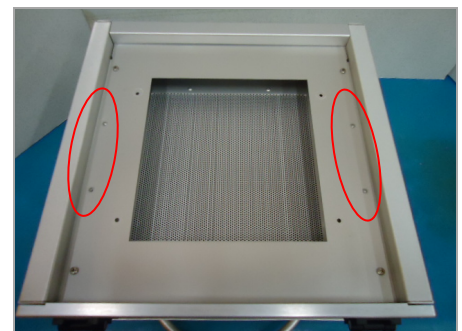

Figure 4. Light Shield Top Cover, Remove Center M4 x 8 mm Screws
6. On the Light Shield, remove the two inner M4 x 8 mm screws from the left and right sides of the Top Cover Plate (Figure 4).